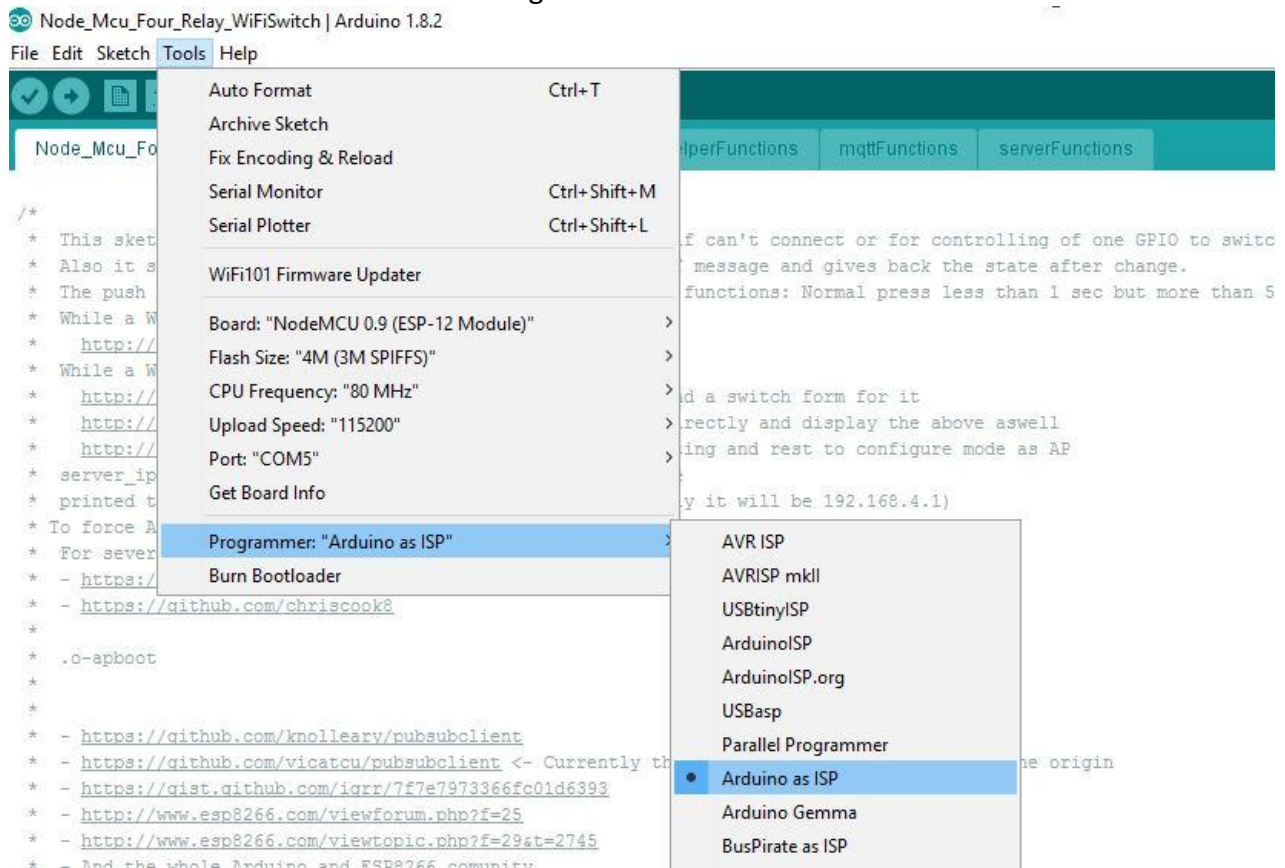

Figure 15: IDE Selection
8. Click on tools tab, move mouse pointer to “Programmer: “Arduino as ISP””, under this click on “Arduino as ISP” to select. Refer to figure 15.